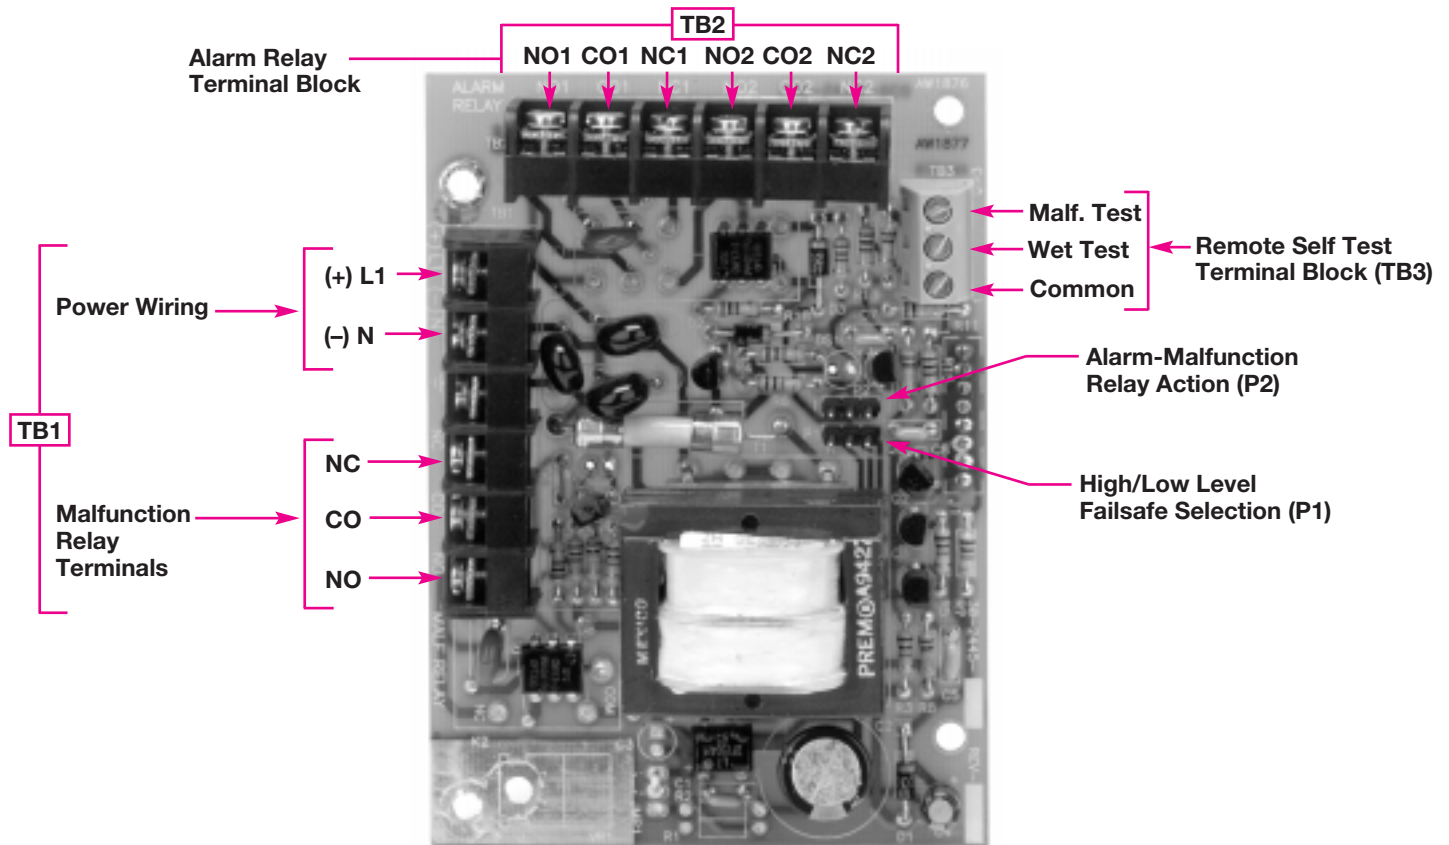
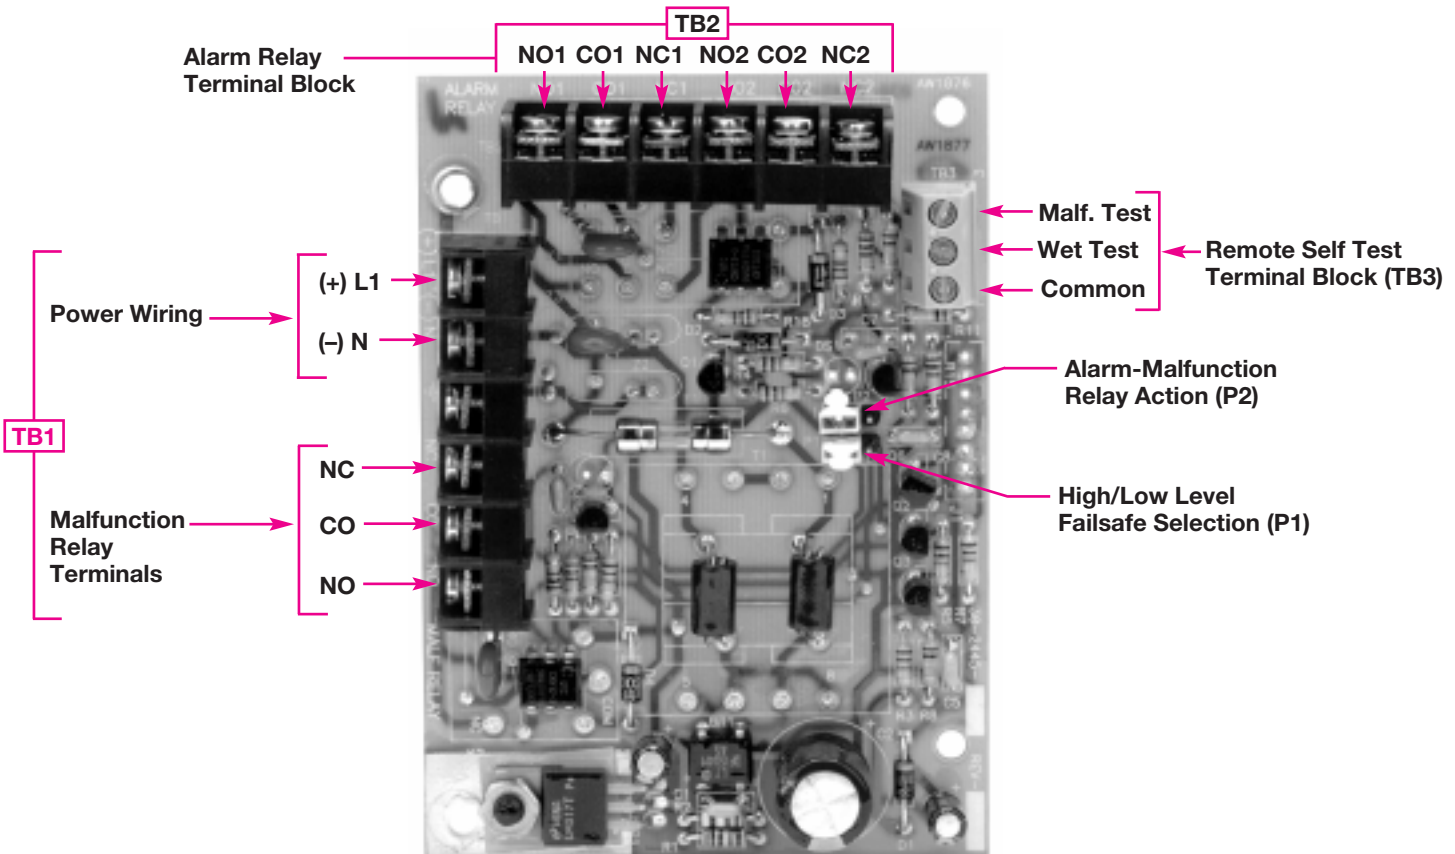

Figure 5
Figure 6
**NOTE:** FOR 91S 120/240 VAC W/OPTO-ISOLATED OUTPUT, REFER TO FIGURE 5 ON PAGE 5. FOR 91S 24 VDC W/OPTO-ISOLATED OUTPUT, REFER TO FIGURE 6 ON PAGE 5.